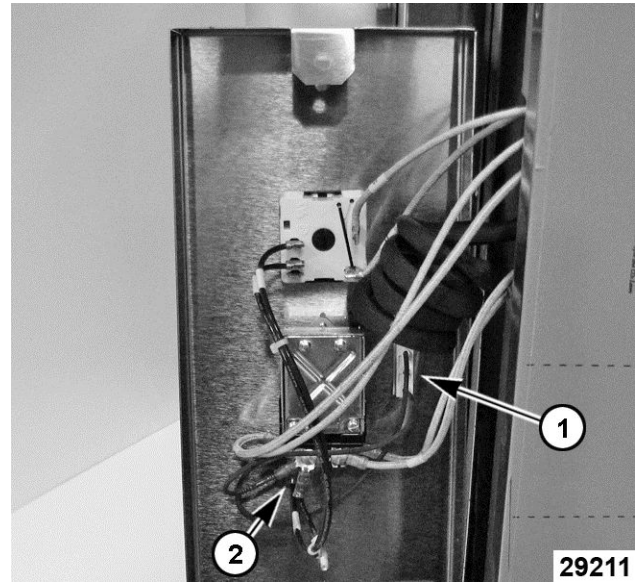

Fig. 36
- B. Oven control panel indicator lights (1, Fig. 36) electrical connections (2, Fig. 36).